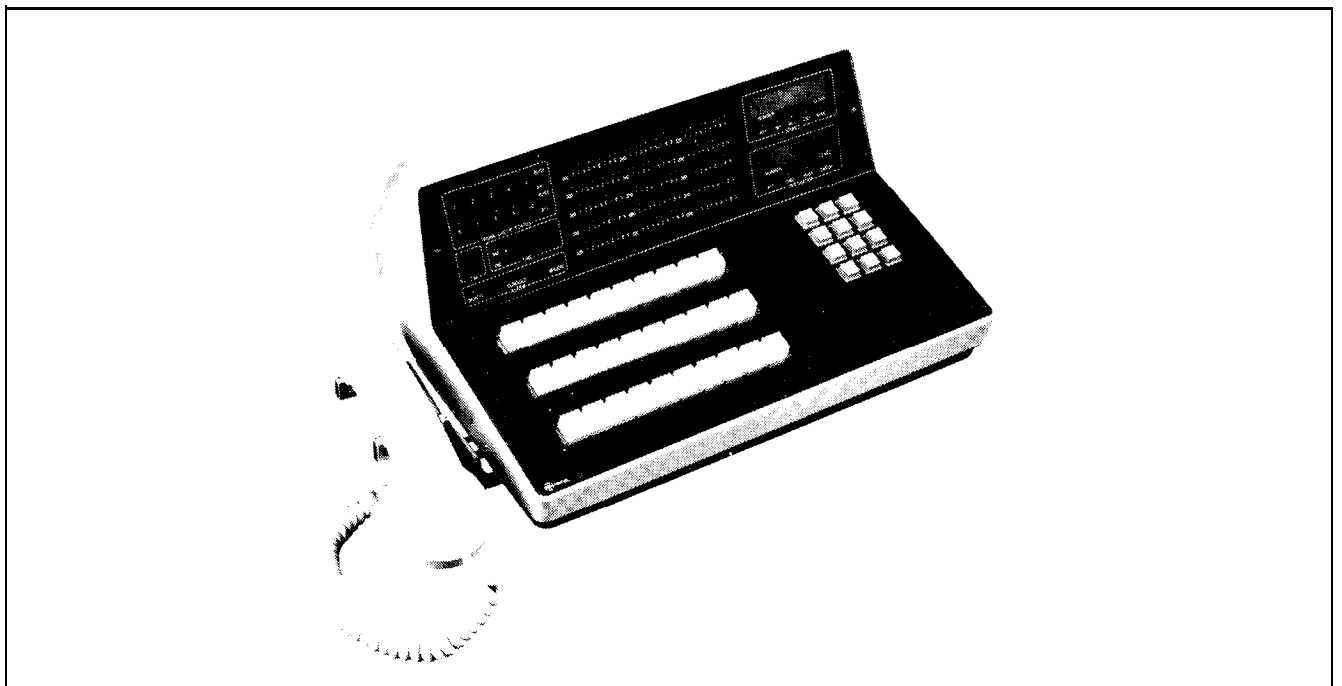

Fig. 2-7 Attendant Console
2.13 The SX-1001200 attendant console (see Fig. 2-7) is enclosed in a housing with a black faceplate. Located on either side of the console are a pair of headset/handset jacks allowing simultaneous operation and supervision. The console keyboard holds three rows of ten nonlocking keys for the selection of features and completion of calls. On the right of the keyboard is a 12-key pushbutton dial pad. The console display, mounted above the keyboard, displays the active states of calls in progress. In addition to the call status display is a busy lamp field, a trunk group status field, a call waiting indicator, a digital